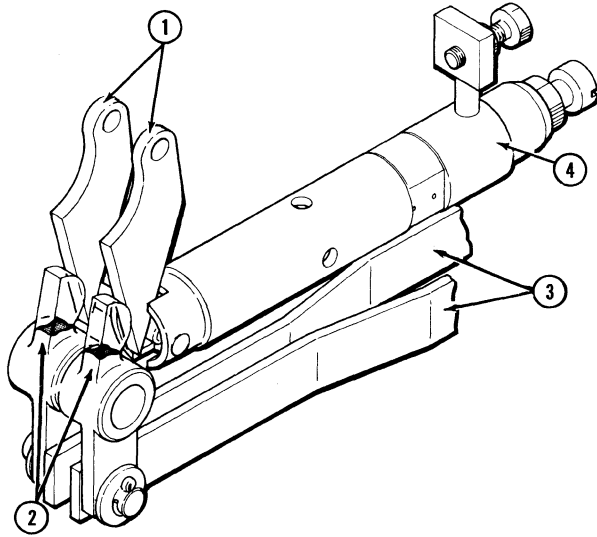

Figure 28
5. Linkage with Cam B and Pilot Spool (Figure 28).